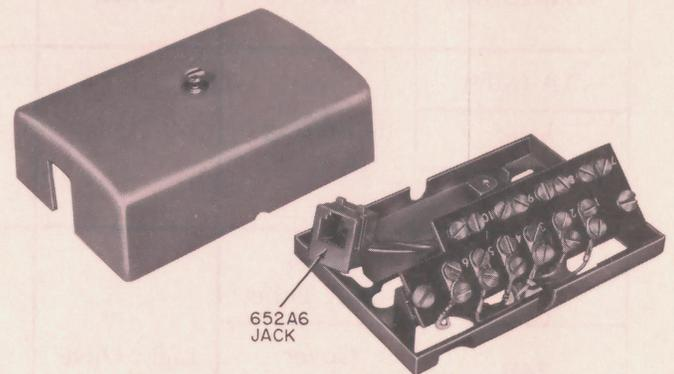

Fig. 4.1—74D Connecting Block
2.05.1 The 74D connecting block (Fig. 4.1) consists of a terminal strip, 652A6 jack, and plastic cover. The block is intended for use with modular telephone sets requiring a 6-conductor modular jack (sets equipped with a D6AM or D6AP cord). The modular jack fits in the cutout on the cover and is held in place on the lip of the base pan when the cover is installed.
2.002 Add Fig. 4.1.